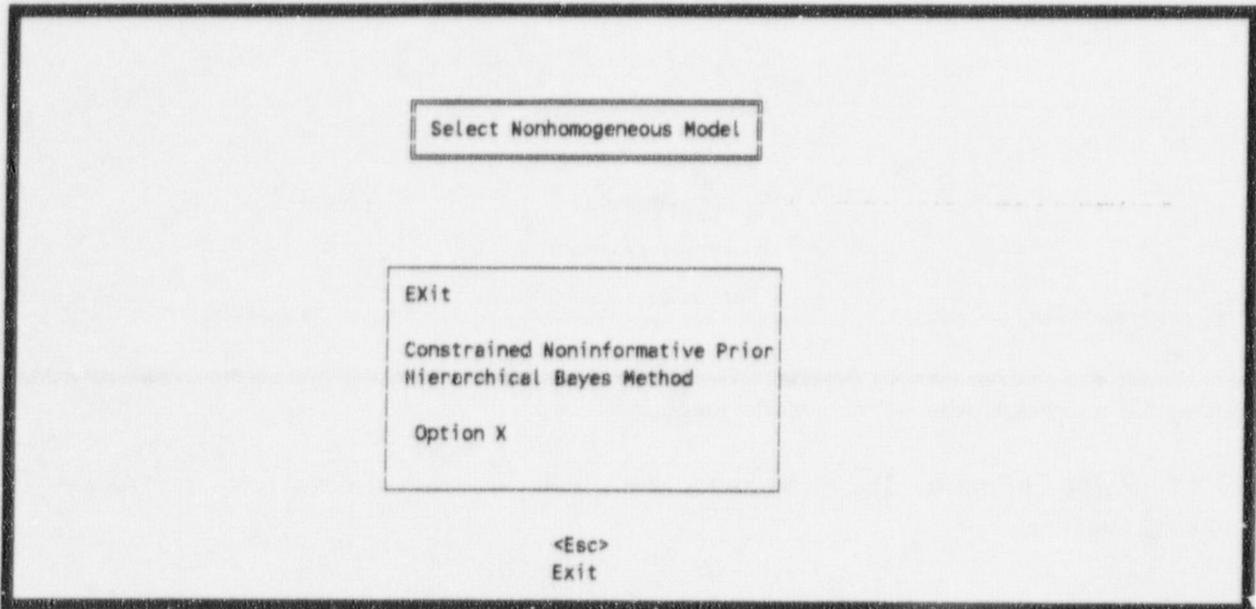

Figure 24. Generic—Nonhomogeneous Model menu.
3.4.1.2 **Nonhomogeneous Bayesian Distributions or Plant to Plant Distributions.** The Nonhomogeneous Bayesian Model Selection Menu is shown in Figure 24. Use the up and down arrow keys